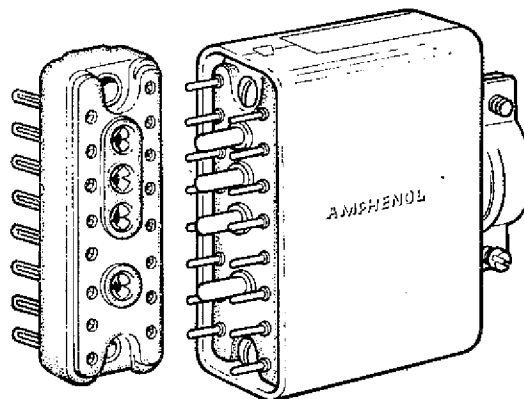

Fig. 1. Typical mating pair, standard rectangular
2. 126 Series standard rectangular connectors (fig. 1) have eyelets inserted in the mounting holes for added strength. The male contacts are moulded into the insert and have flattened and pierced terminations. To prevent accidental shorting, the connectors have interlocking barriers.